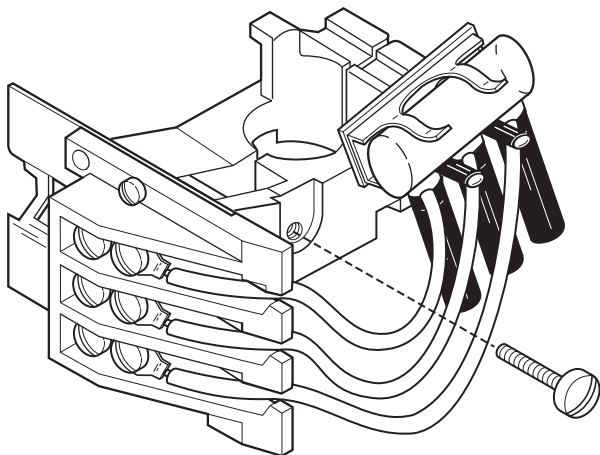

Figure 1
2. Loosen screw in split mounting clamp until mechanism slides freely on enclosing tube, see **Figure 1**.